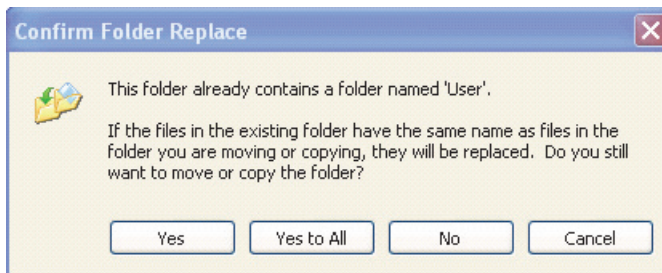

Figure 4-30 The Confirm Folder Replace message box
4. If the **Confirm Folder Replace** message box appears, click **Yes to All** (see Figure 4-30 on page 103).